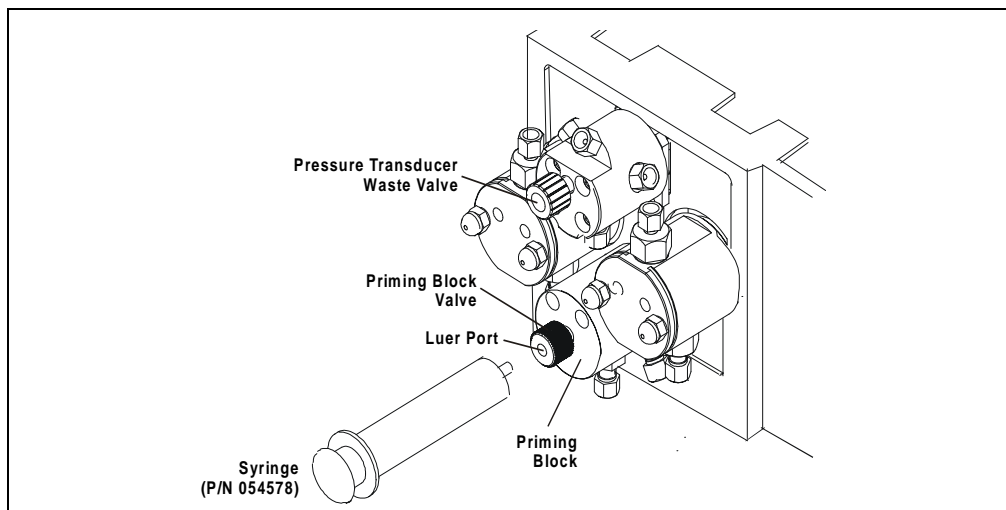

Figure B-8. Priming the Pump
3. Connect a 10 mL syringe (P/N 054578) to the luer port in the priming block. Turn the priming block valve counterclockwise one turn (see Figure B-8).
7. When the pump has been primed thoroughly, turn the priming block valve counterclockwise until closed (see Figure B-8). Do not overtighten.
1. Connect a 10 mL syringe (P/N 054578) to the luer port on the priming block (see Figure B-8).
2. Open the pressure transducer waste valve (see Figure B-8) by turning the knob counterclockwise about two turns.